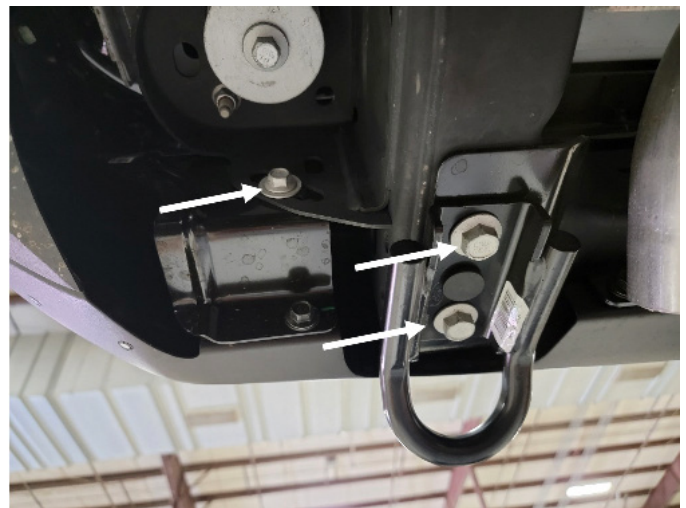

Figure 2
2. From underneath the bumper, use an 18mm socket or wrench to remove the 4x (2 on each side) bolts holding the bumper to the lower frame. If your Bronco is equipped with tow hooks remove them at this time and set them aside for later use. Use a 13mm socket or wrench to remove the 2x (1 on each side) bolts holding the bumper to the frame rails and remove the bumper from the vehicle. Figure 2.